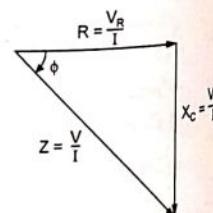

Fig. 3.6.3 Impedance triangle
• In R-C series circuit, current leads voltage by angle  $\phi$  or supply voltage  $V$  lags current  $I$  by angle  $\phi$  as shown in the phasor diagram in Fig. 3.6.3.
• If all the sides of the voltage triangle are divided by the current, we get a triangle called impedance triangle. It is shown in the Fig. 3.6.3.